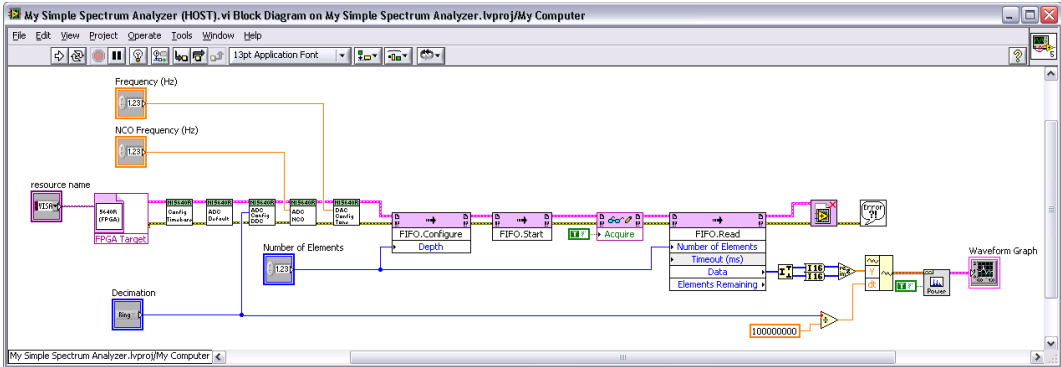

Figure 21. Host VI Block Diagram
29. Close the reference to the FPGA VI running on the FPGA target by placing the Close FPGA VI Reference VI, available on the **Functions** palette under **FPGA Interface**, on the block diagram as shown in Figure 21.
31. Save the VI. Your host VI block diagram and front panel should now look like Figures 21 and 22, respectively.